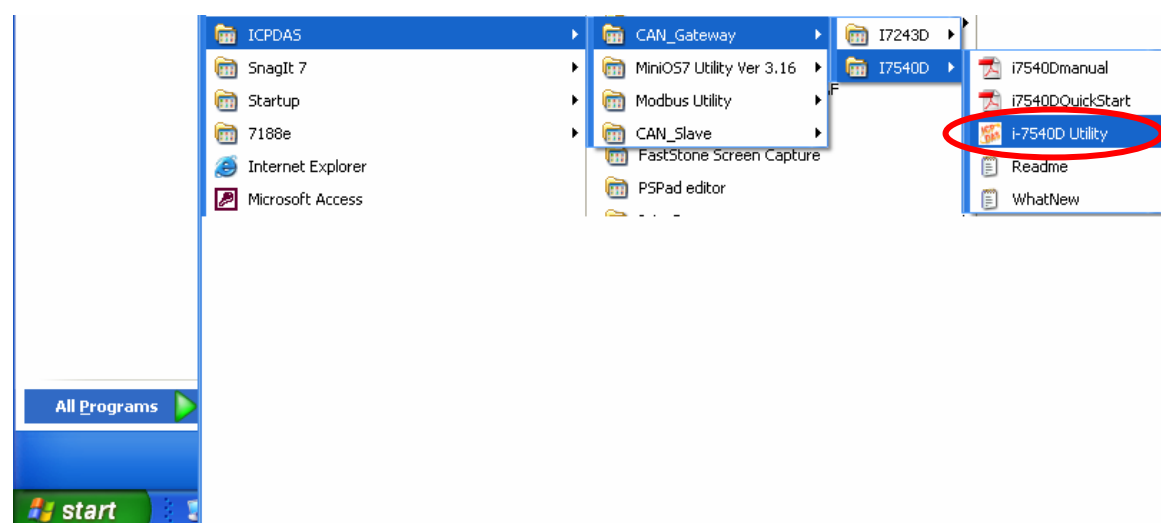

Figure 3-6: You can find “i-7540D Utility” at the “Start” in the task bar
**Step 7:** After finishing the installation of the i-7540D Utility, users can find it as shown in figure 3-6.